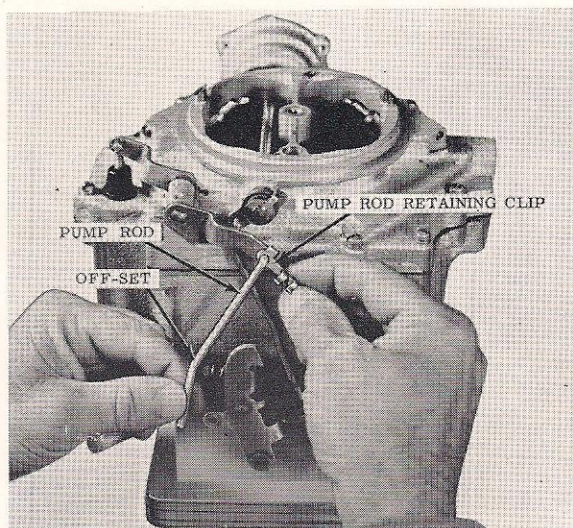

Figure 7-9
6. Remove clips from each end of pump rod and remove pump rod. (Figure 7-9.)